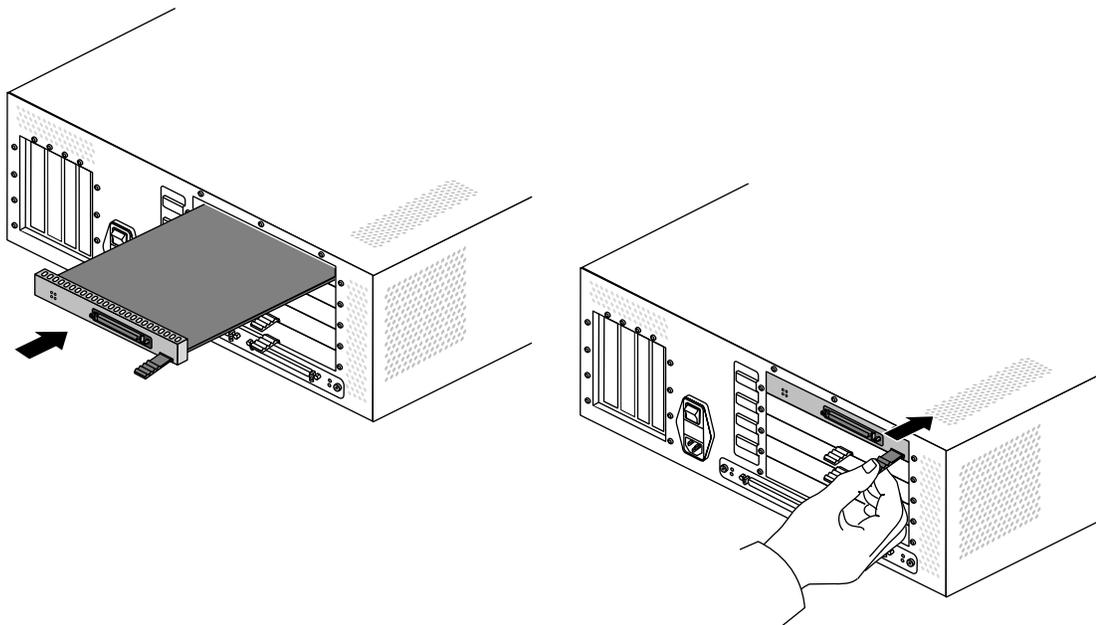

Figure 2-17 Installing an XIO Board
5. Install the XIO board, as shown in Figure 2-17.